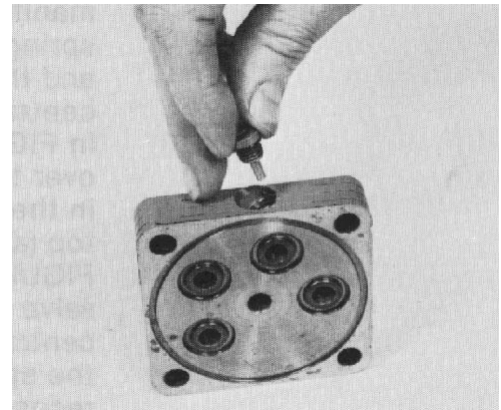

Figure 105
41. Install a new o-ring on the plug. Insert the check ball hole in the port cover. Be sure the ball is seated in the bottom of the check ball hole. Turn the plug assembly into the port cover until the ball is retained (Fig. 105).